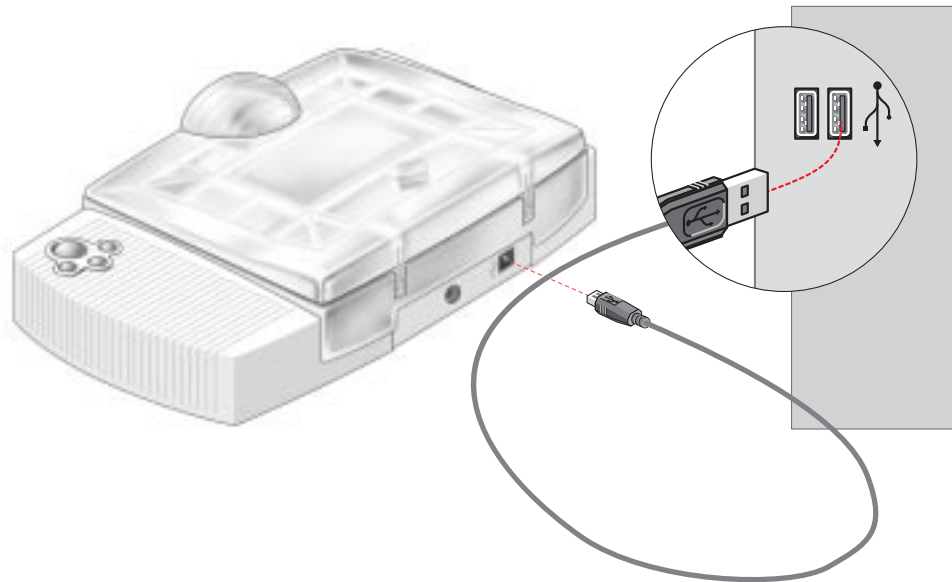

Figure 2
3. Connect one end of your USB cable to the USB port on your scanner. Make sure you connect the correct plug as shown in figure 2.
4. Connect the other end of your USB cable to a USB port on your computer. Make sure you connect it to the correct port as shown in figure 2. A USB port is labeled with the USB icon .